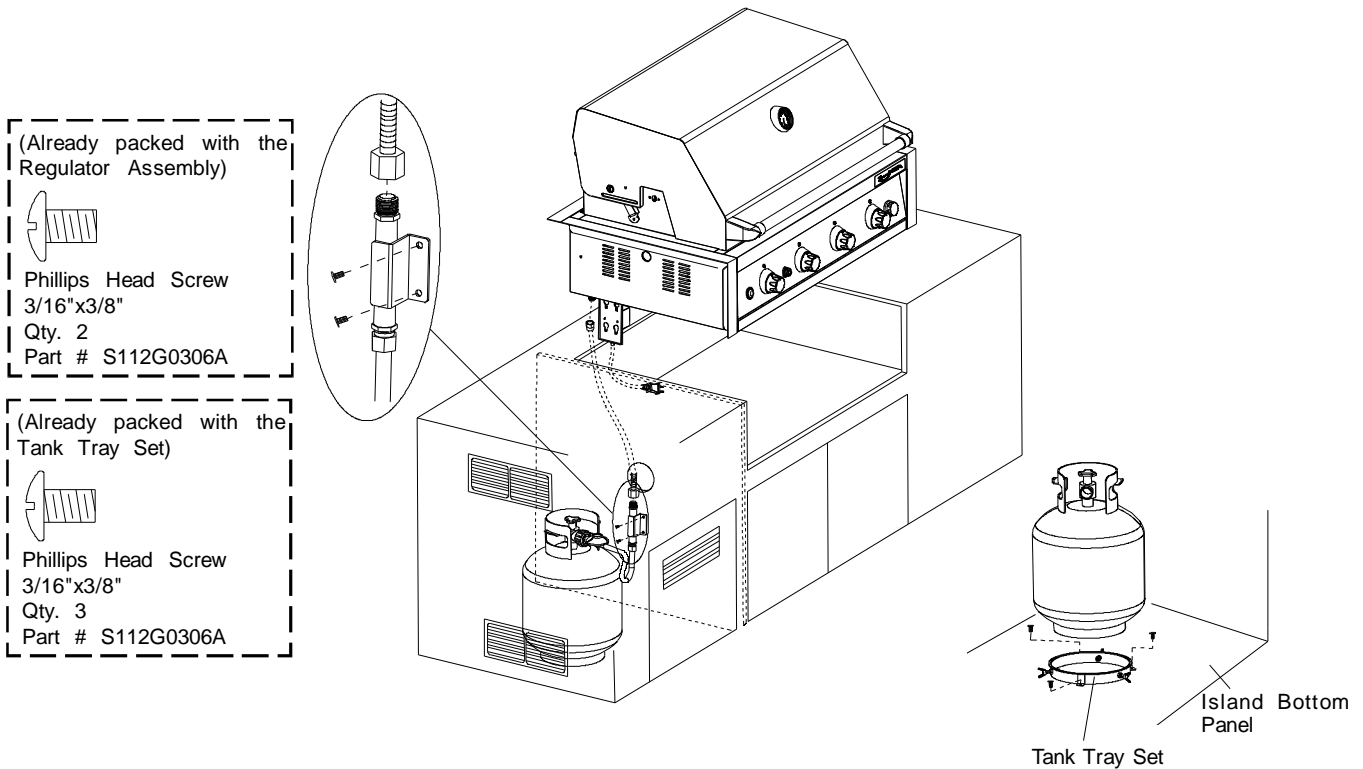

Fig. 3
- Install the Tank Tray Set onto the Island Bottom Panel. Install 3 Phillips Head Screws 3/16"x3/8" as shown in Fig. 3. Place the LP Gas Tank into the Tank Tray. Make sure the tank valve faces the right corner of the cabinet. Tighten the wing bolt to secure the LP Gas Tank.